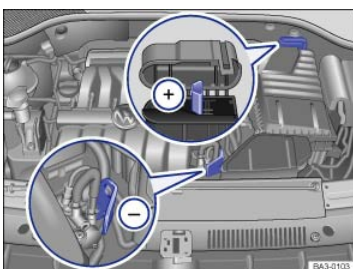

Fig. 205 In the engine compartment (3.6 liter engine): Positive jump-start terminal ⊕ and negative jump-start terminal ⊖.
- ① Switch off the ignition in both vehicles ⇒ Starting and stopping the engine .
- ② If necessary, open the battery cover in the engine compartment ⇒ Vehicle battery or flip open the cap on the positive jump-start terminal ¹⁾ ⇒ Jump-start terminals, 3.6 liter engine ⇒ Fig. 205 ⊕.
¹⁾ For vehicles without a battery in the engine compartment ⇒ Jump-start terminals, 3.6 liter engine, ⇒ Fig. 205.